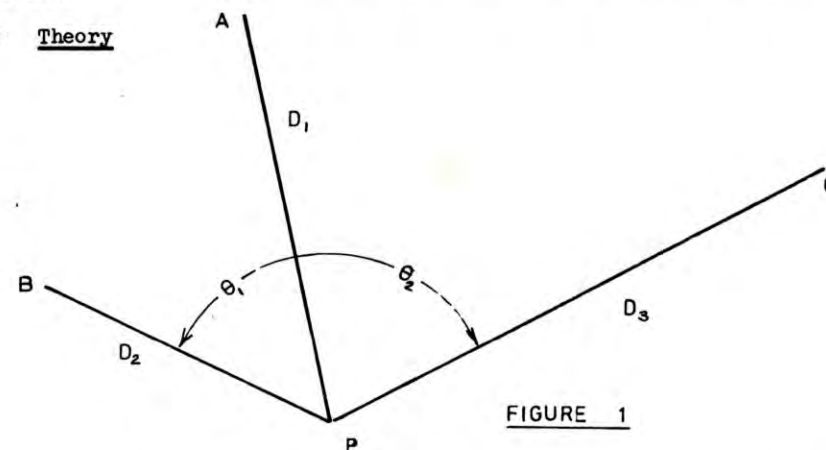

FIGURE 1
2.01 Figure 1 shows a typical situation the original surveyor at P, has observed the angles θ_1 and θ_2 and estimated the distances D_1 , D_2 and D_3 to three fixed points whose positions are otherwise unknown. It will be seen later that it is convenient to always choose the middle point as D_1 , and to consider the angle θ_1 and θ_2 as being measured from D_1 , ie. the positive direction of θ_1 is anticlockwise and that of θ_2 clockwise as indicated by the arrows in Figure 1.